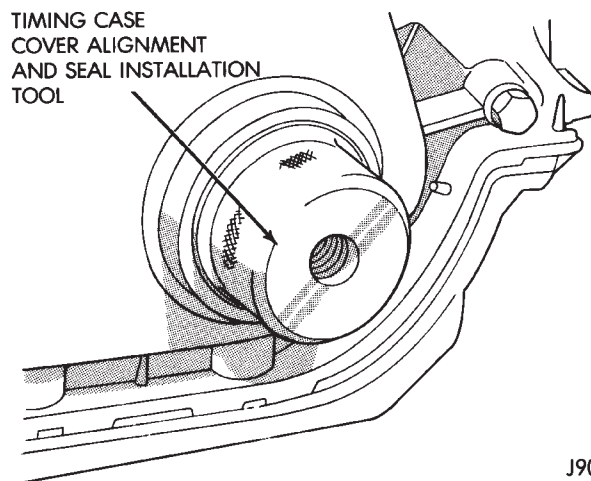

Fig. 53 Timing Case Cover Alignment and Seal Installation Tool 6139
- (7) Tighten the camshaft sprocket bolt to 108 N·m (80 ft. lbs.) torque.
- (8) Check the valve timing.
- (9) Coat both sides of the replacement timing case cover gasket with gasket sealer. Apply a 3 mm (1/8 inch) bead of Mopar Silicone Rubber Adhesive Sealant, or equivalent to the joint formed at the timing case cover and cylinder block.
- (10) Position the timing case cover on the oil pan gasket and the cylinder block.
- (11) Place Timing Case Cover Alignment and Seal Installation Tool 6139 in the crankshaft opening of the cover (Fig. 53).